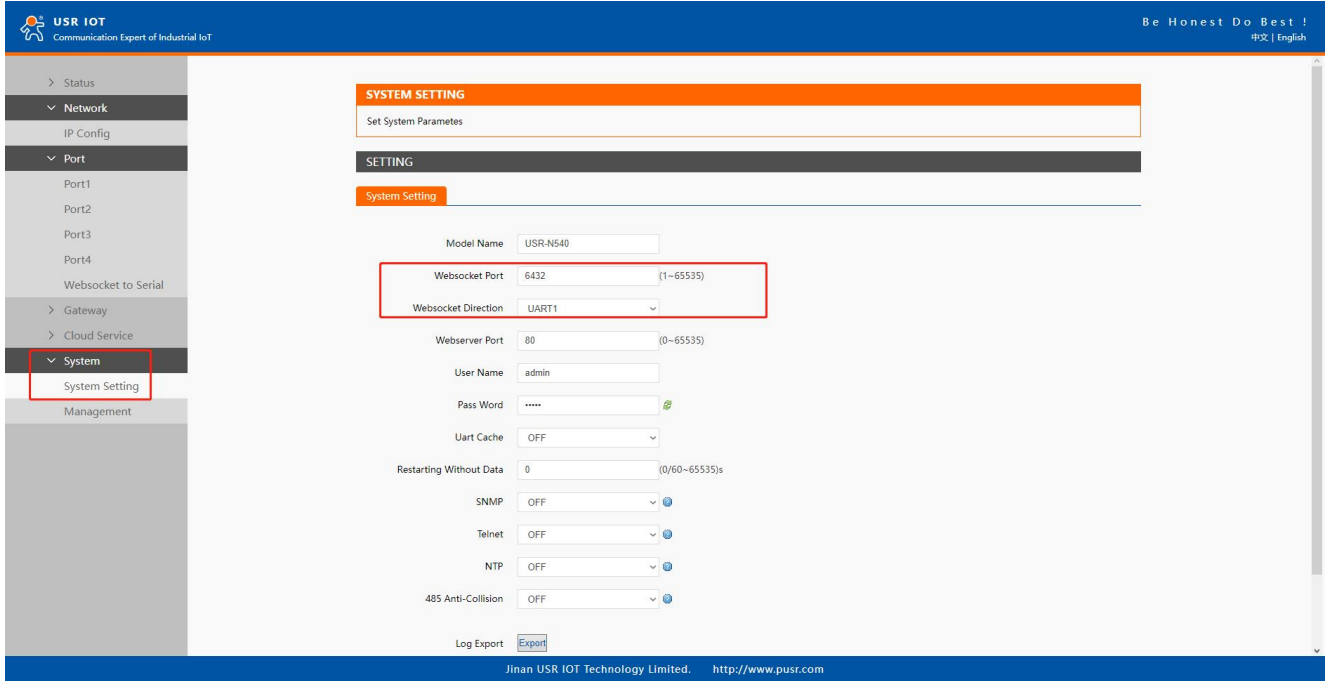

Fig. 62 Websocket server setting
1. Click on the "system setting" tab on the menu frame on the left side of Web UI to go to system setting page as shown in Fig.62.